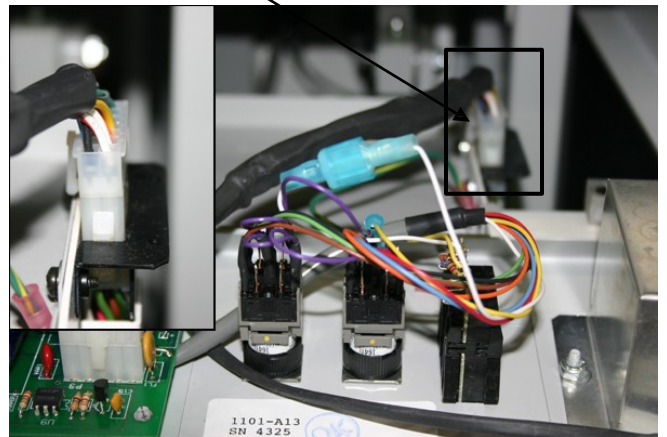

Figure 8.4—Control board plugs
2. With printed circuit boards facing up, un-plug the two control board plugs from their respective housings. See figure 8.4
4. Holding the electronic panel in place, replace the two (2) screws (with lock washers).